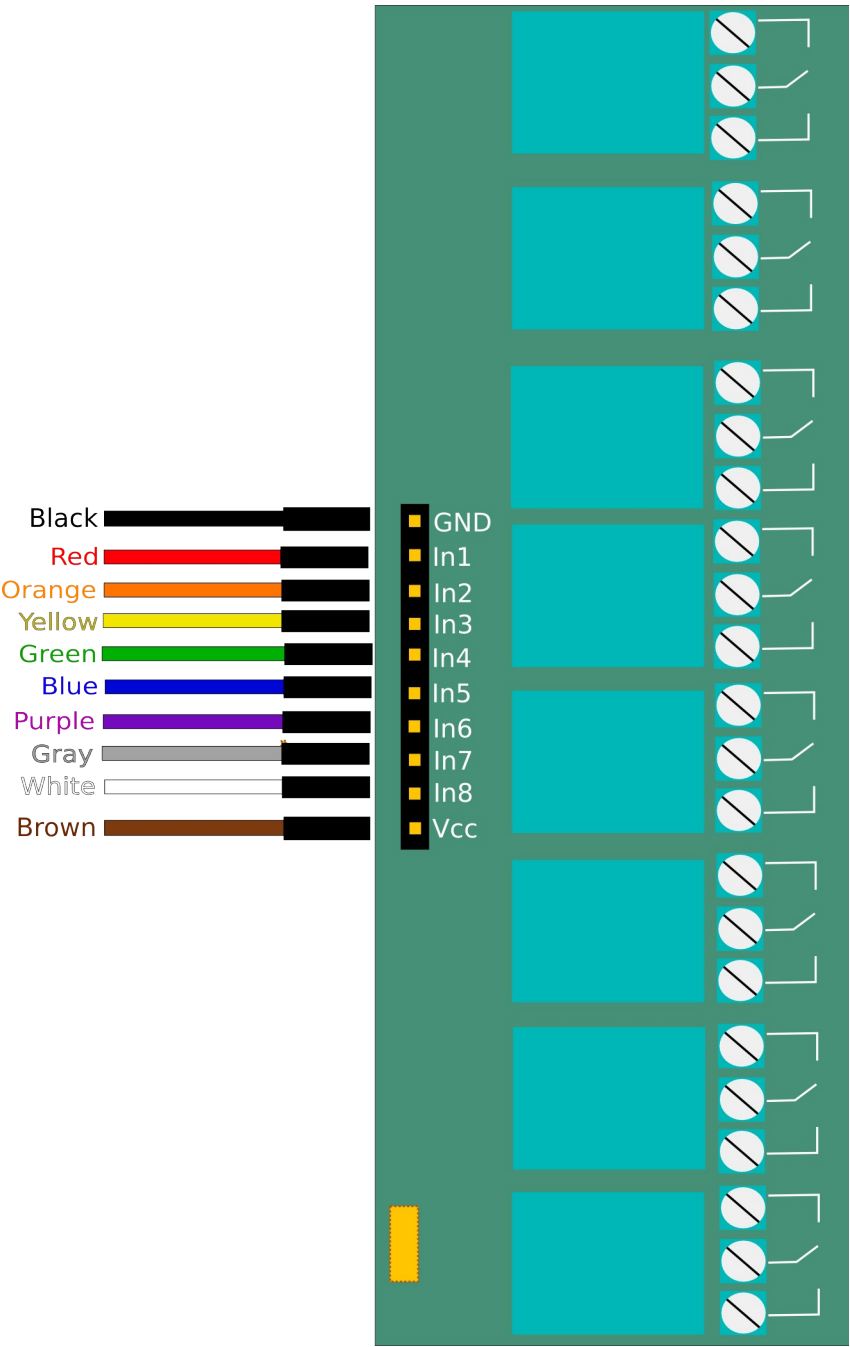

Figure B1: Relay wiring guide
2. If it is not broken replace it. See *Figure B1* for a wiring diagram. See *Table B1* for a chart of where wires can be connected.